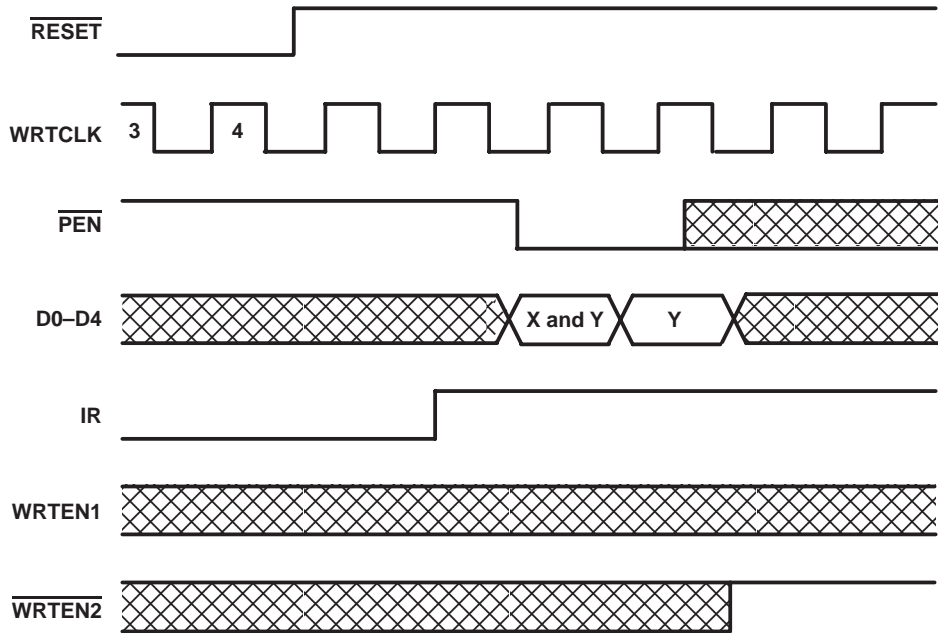

Figure 4. Programming X and Y Separately
Program enable ($\overline{\text{PEN}}$) should be held high throughout the reset cycle. $\overline{\text{PEN}}$ can be brought low only when IR is high and WRTCLK is low. On the following low-to-high transition of WRTCLK, the binary value on D0–D4 is stored as the AE offset value (X) and the AF offset value (Y). Holding $\overline{\text{PEN}}$ low for another low-to-high transition of WRTCLK reprograms Y to the binary value on D0–D4 at the time of the second WRTCLK low-to-high transition. When the offsets are being programmed, writes to the FIFO memory are disabled regardless of the state of the write enables (WRTEN1, WRTEN2). A maximum value of 31 can be programmed for either X or Y (see Figure 4). To use the default values of X = Y = 8, $\overline{\text{PEN}}$ must be held high.